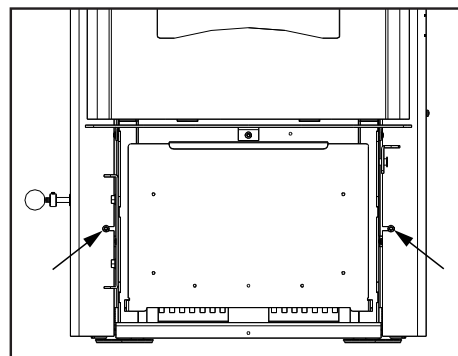
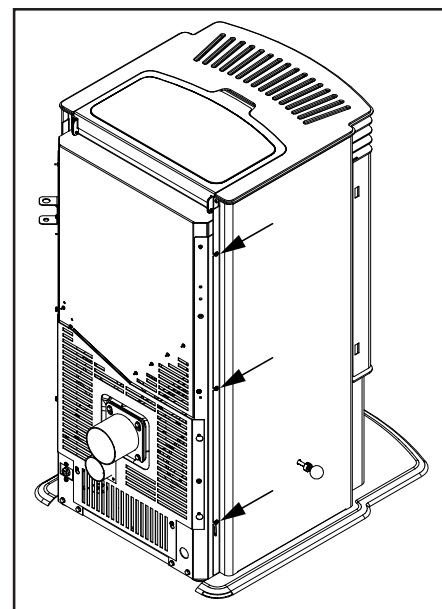

Figure 14: Screw behind ash box.
Figure 15: Screws at the back of the cabinet side.
- a) Ensure the screws behind the ash box (Figure 14) and the three (3) on each side at the back (Figure 15) are loosened.